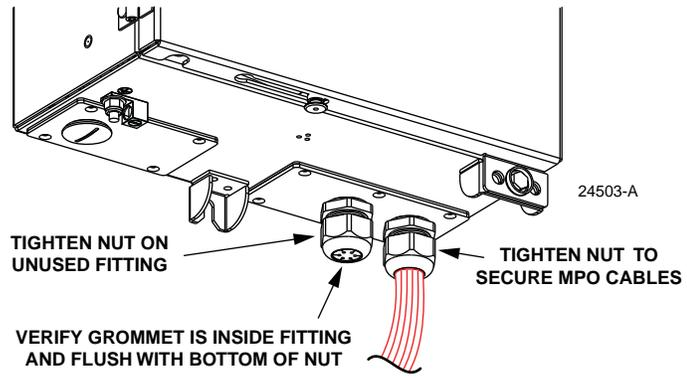

Figure 52. Tighten Compression Nut on Unused Fitting
16. When all the cables are installed, tighten the compression nut to secure the MPO cables at the cable entry/exit hole as shown in Figure 52.
- ▶ **Note:** If the remaining entry/exit hole is not needed, verify that the compression fitting grommet (see Figure 52) is installed in the compression fitting. Then tighten the compression nut until it bottoms against the spacers.